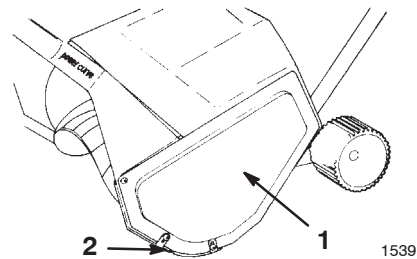

Figure 13
Note: If you cannot remove the rotor shaft by holding the rotor, remove the left side cover and the skid (Fig. 13).
- Remove the 3 screws that secure the left side plate to the snowthrower frame (Fig. 13).
1. Remove the screws that secure the left side plate and the skid to the snowthrower frame (Fig. 13).